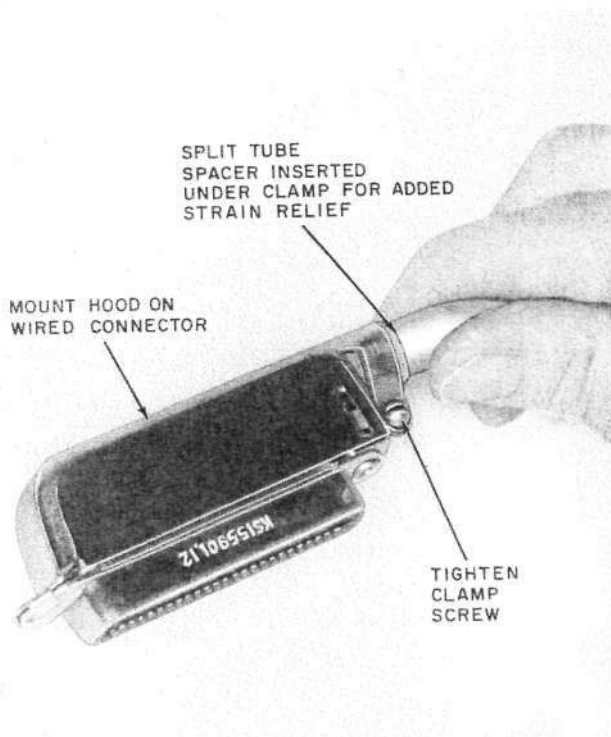

Fig. 28—Installation of Metal Hood
**3.11 Strain Relief**—On Type I connectors (metal hoods), provide strain relief for the cable by putting an RM-729159 split tube spacer around the cable under the clamp and tightening the clamp screw (Fig. 28). Test the cable for adequate strain relief by holding the connector and pulling on the cable; there should be no movement of the cable under the clamp.